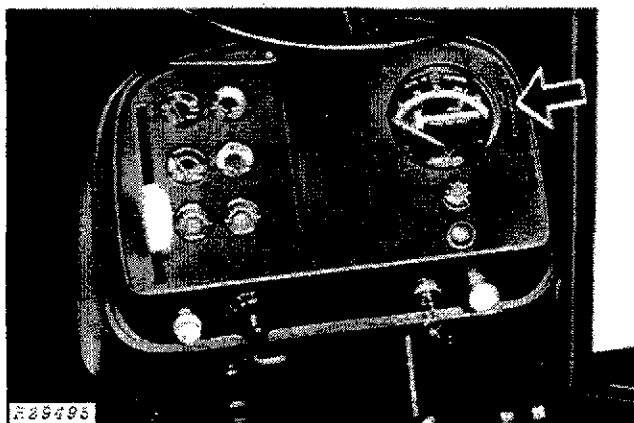

Fig. 36-Tachometer
14. Check engine idle speeds on tachometer (Fig. 36). Fast idle should be 2400 rpm and slow idle should be 800 rpm.